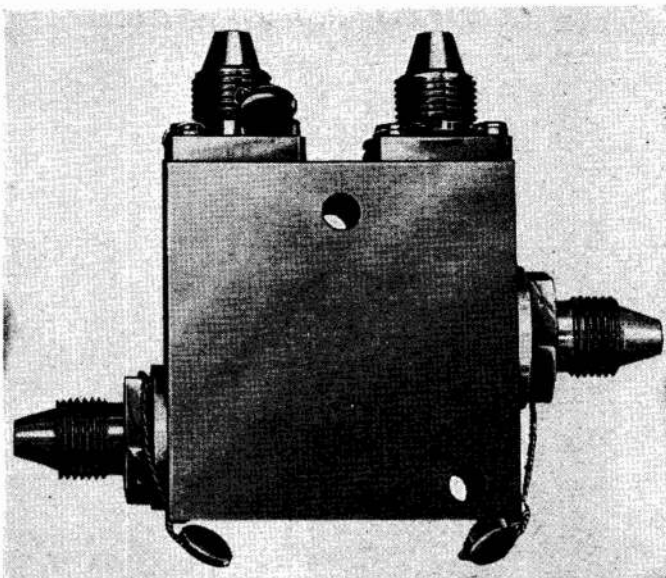

Fig. 5. Two-way liquid oxygen check valve (Ref. No. 6D/2265)
12. Referring to fig. 5 and 6, this valve has two internal passages with a non-return valve at each inlet, allowing the supply from two container systems to be directed to their respective regulators. These two passages are interconnected by two differential pressure valves, set to open at a pre-determined differential pressure (normally 10 lb/in²).